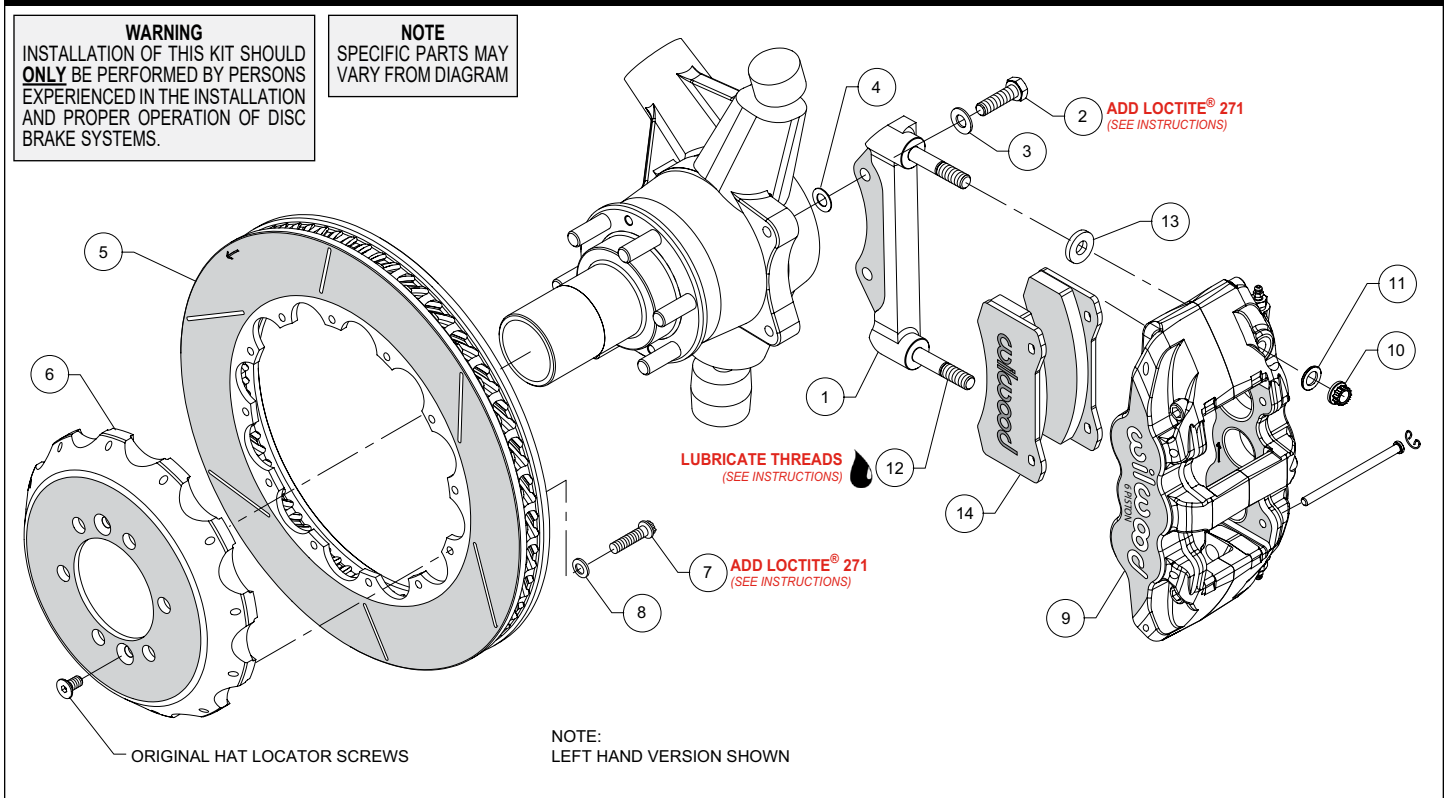
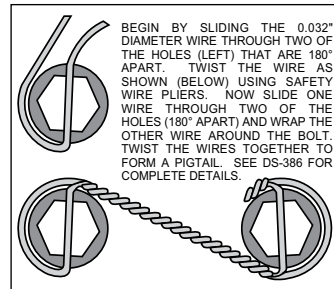

Figure 1. Typical Installation Configuration
Figure 3. Safety Wire Diagram
**Assembly Instructions** (numbers in parenthesis refer to the parts list and Figure 1 on the preceding pages):
- The caliper mount bracket (1) should initially be installed with clean, dry threads on the mounting bolts. Orient the bracket as shown in Figure 1 and Photo 1, and install using bolts (2) and washers (3). Initially place one .030 thick shim (4) on each bolt between the bracket and upright, Figure 1. Temporarily tighten the mounting bolts. **NOTE: The bracket must fit squarely against the mounting points on the upright.** Inspect for interference from casting irregularities, machining ridges, burrs, etc. Later, after the caliper alignment has been checked, the mount bolts will be secured using red *Loctite*® 271.
- Orient the rotor (5) and the hat (6) as shown in Figure 1 and Photo 2. Attach rotor to hat using bolts (7) and washers (8). Apply red *Loctite*® 271 to the bolt threads and torque to 155 **in-lb** using a criss-cross pattern. For an added measure of security, the bolts may be safety wired using standard 0.032 inch diameter stainless steel safety wire as shown in Figure 3. Please refer to Wilwood's data sheet DS-386 (available at [www.wilwood.com/Pdf/DataSheets/ds386.pdf](http://www.wilwood.com/Pdf/DataSheets/ds386.pdf)) for complete safety wire installation instructions.
- **NOTE: This kit contains distinct right and left hand calipers that must be mounted in a specific direction, as described below.** Lubricate the caliper mounting studs (12) with lightweight oil. Place one spacer (13) on each stud between the caliper and the bracket, as shown in Figure 1 and Photo 4. Mount the caliper (9) onto the bracket (1) using lock nuts (10) and washers (11), Figure 1. Ensure that the caliper is mounted so the largest pistons are at the rotor exit end of the caliper, in relation to the direction of rotor rotation. Temporarily tighten the lock nuts and view the rotor through the top opening of the caliper. The rotor should be centered in the caliper, Photo 5. If not, adjust by adding or subtracting shims (4) between the bracket and the upright. Always use the same amount of shims on each of the two mounting bolts. Once the caliper alignment is correct, remove the bracket mounting bolts (2) one at a time, apply red *Loctite*® 271 to the threads, and torque to 35 ft-lbs.
- Remove the two pad retaining pins from the caliper (9) by carefully popping out the pin retaining clips and sliding out the pins. Insert the brake pads (14) into the caliper from the bottom, Figure 1 and Photo 6. With the friction material facing the rotor, secure the brake pads in place with the pad retaining pins and clips, Photo 7. Reinstall the caliper onto the caliper mounting bracket and torque the caliper lock nuts (10) to 47 ft-lb.